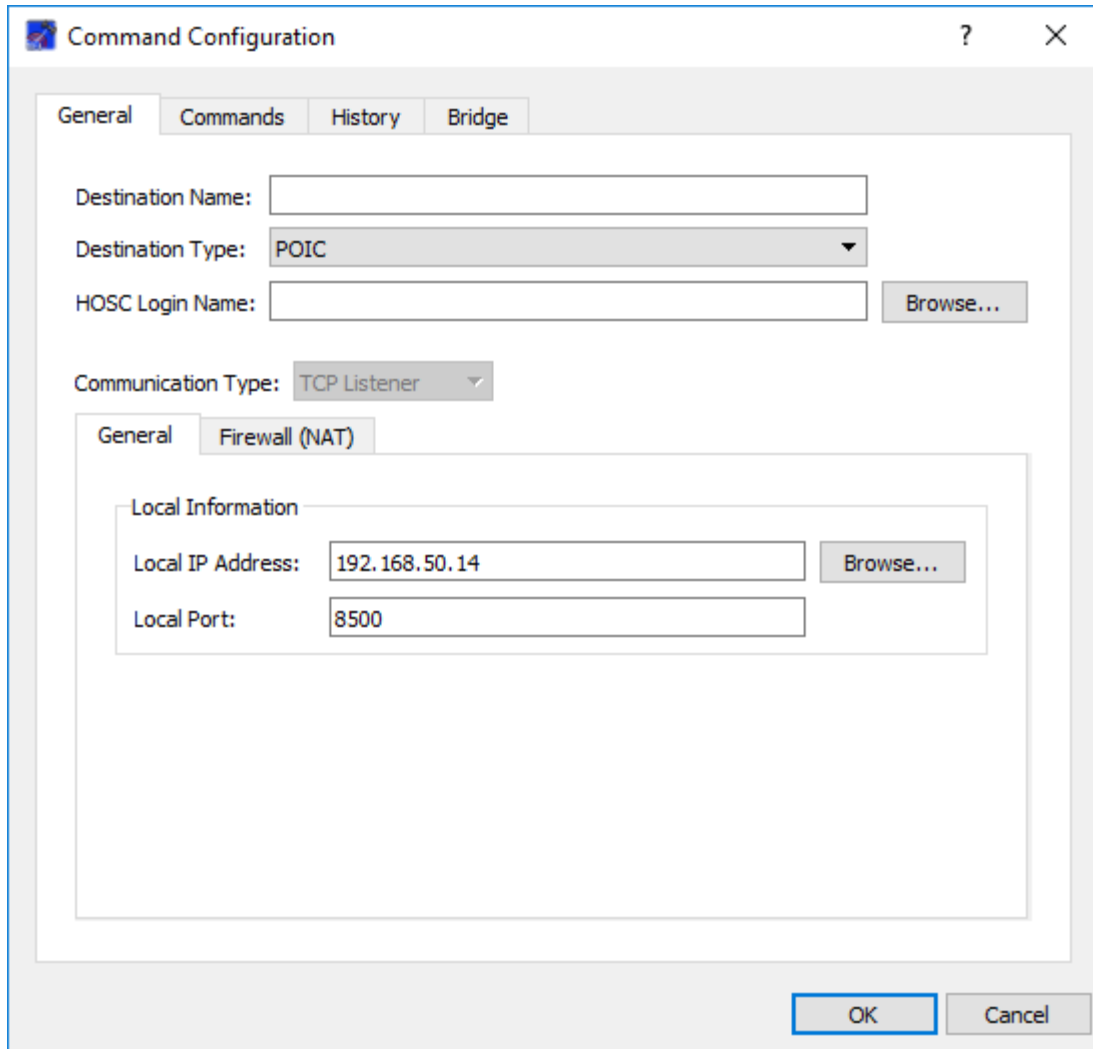

Figure 4 Command Configuration Dialog (General Tab)
2. Push the Configure button in the Main Window Toolbar. You should see the Command Configuration dialog shown in Figure 4.